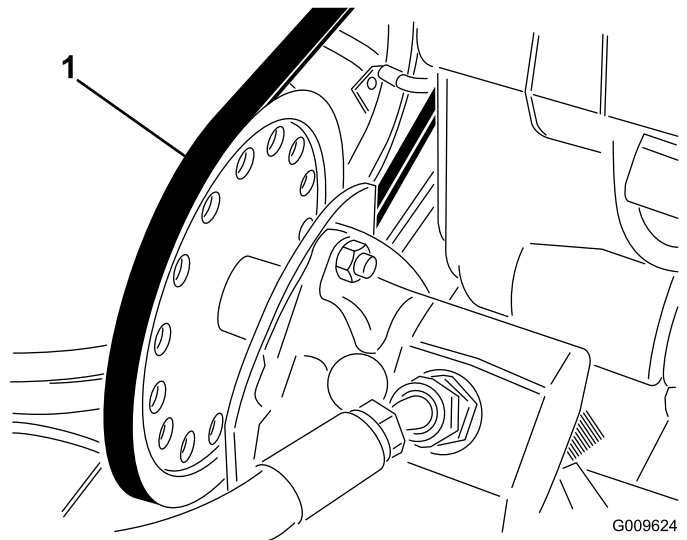

Figure 51
- Loosen nuts securing hydraulic pump to engine frame (Figure 51).